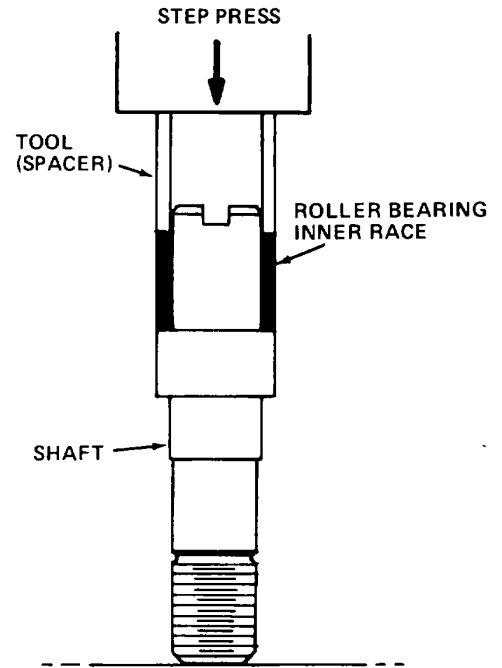

Figure 37. - Installing Inner Race
2. Press inner race of roller bearing onto the shaft until it is against the shoulder as shown in Figure 37.